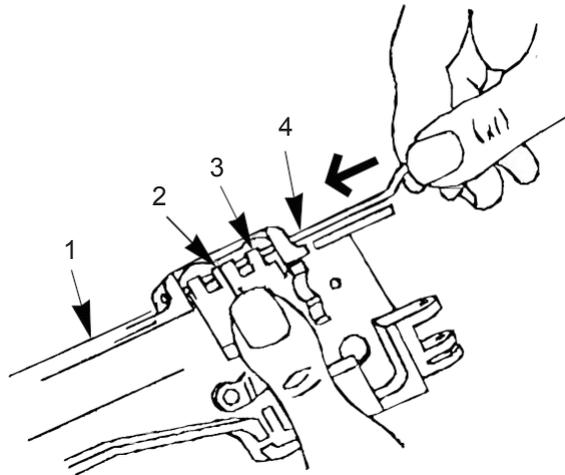

Figure 56. Front and Rear Retaining Pawls, Retaining Pin.
28. Compress front (Figure 56, Item 3) and rear (Figure 56, Item 2) cartridge retaining pawls and springs (not shown) to align holes in cover (Figure 56, Item 1). Push in hooked retaining pin (Figure 56, Item 4) through all aligned holes.